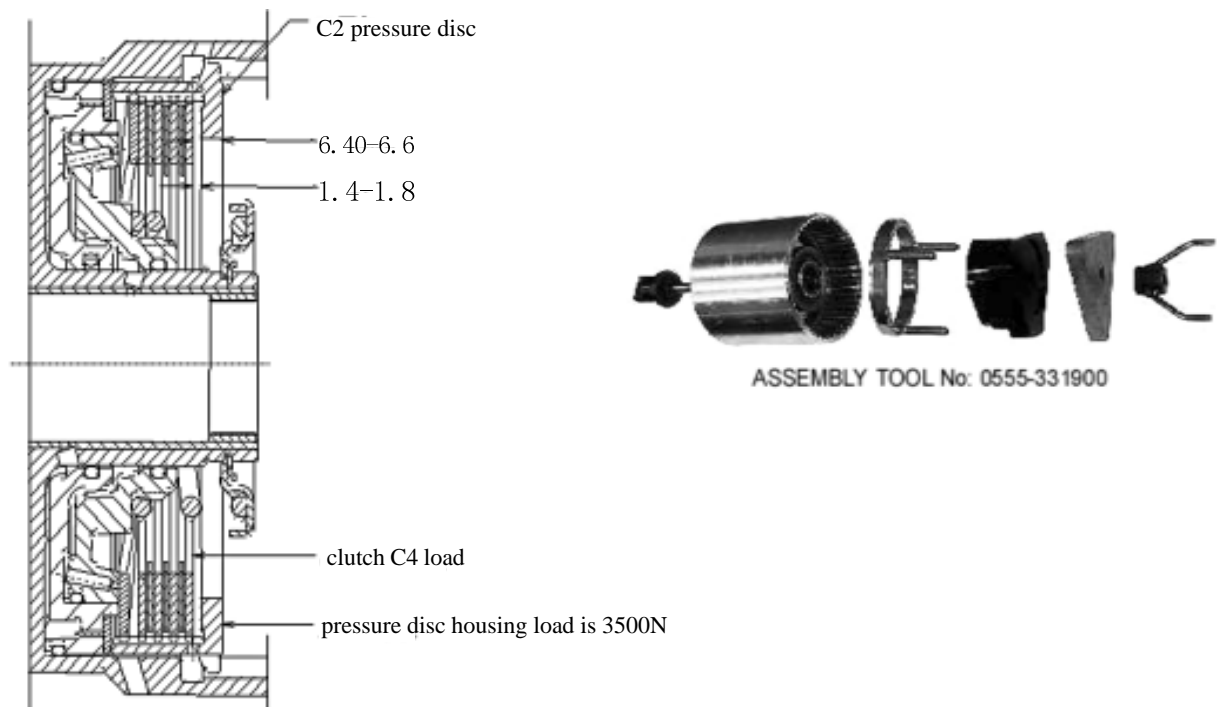

Figure 8.25 C4 clutch assembly
- m. Measure and record the thickness of C2 sleeve ring flange. Refer to Figure 8.25.
- p. Use the special tools to check the C4 clutch assembly. Refer to Figure 8.25.